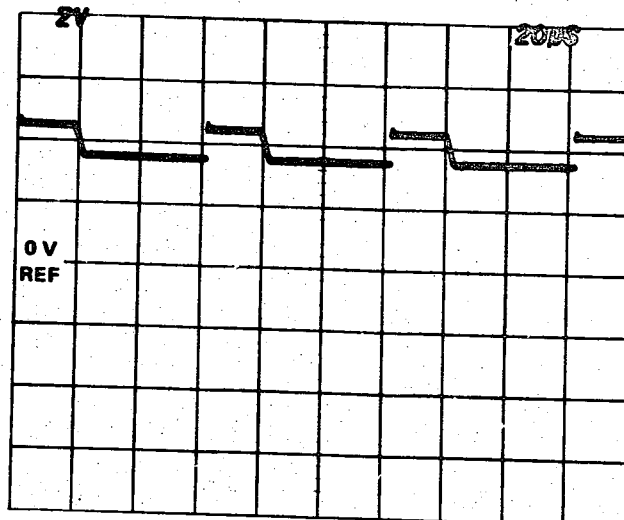

Fig. 6-7. Probe to Pin 14 of U470.
14. Move the probe to Pin 14 of U470 on the Horizontal board. Trigger the test oscilloscope for a waveform similar to that shown in Fig. 6-7.